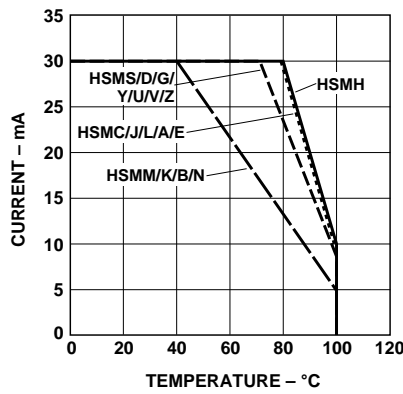

Figure 4. Maximum forward current vs. ambient temperature. Derated based on $T_{JMAX} = 110^{\circ}C$, $R_{\theta JA} = 500^{\circ}C/W$.
- Derate linearly as shown in Figure 4.